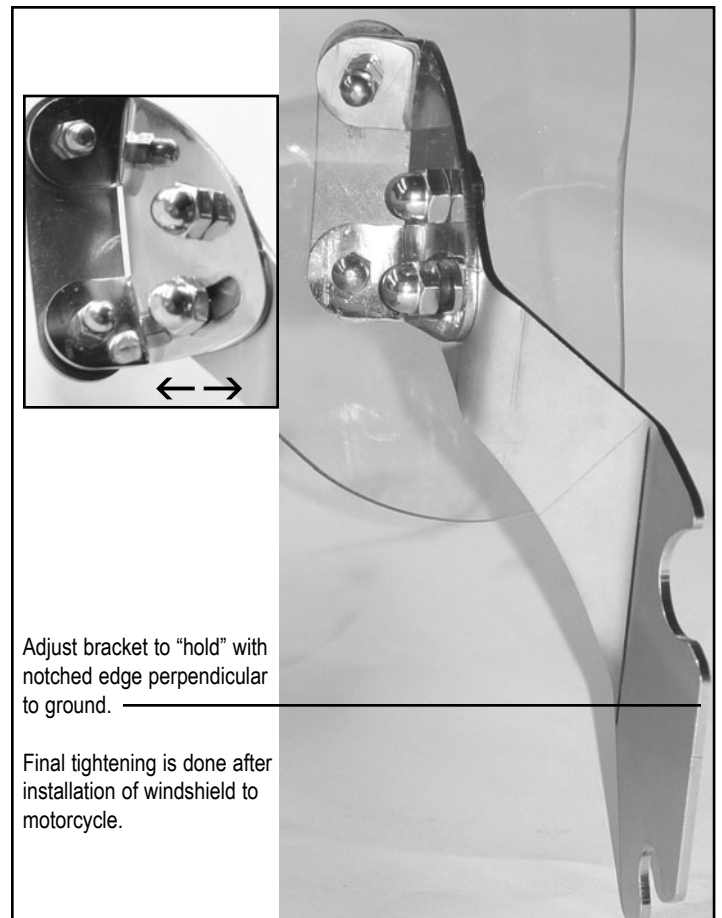

Figure 3.
3. Repeat on left side. For now, adjust Brackets so notched edge is perpendicular to the ground and screen has a slight rake. Tighten to hold. **Figure 3.**
4. Refer to the SwitchBlade Owner's Manual attached to the windshield and install shield to motorcycle. Make final adjustments to rake and tighten Nuts (4) firmly (15 ft/lbs.) **(9/16 Socket and Wrench)**